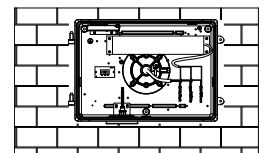

Figure 17
13. Reinstall the heat sink and reconnect the terminals between the CCT Switch and the LEDs. (see Fig. 17)